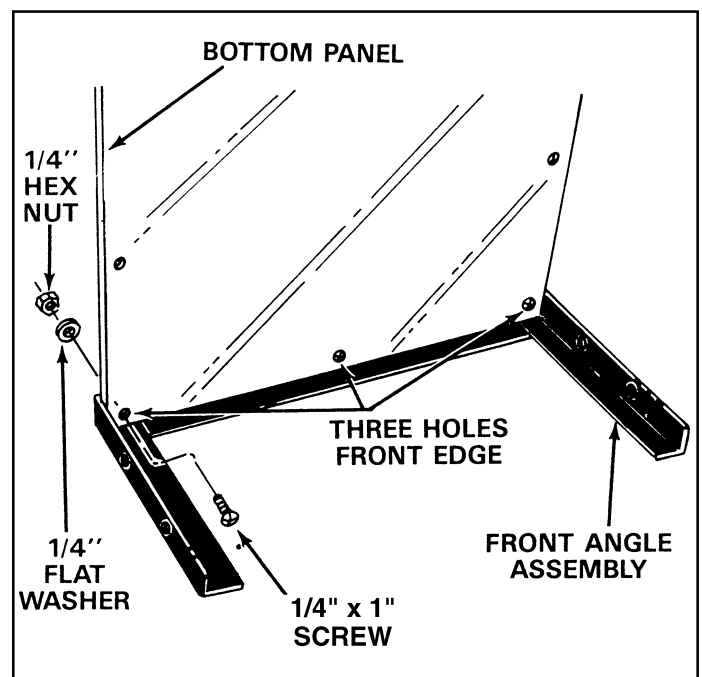

FIGURE 2
1. Lay the front angle assembly down (flat) on floor and stand the bottom panel in position as shown in figure 2.
The bottom panel has one galvanized edge; this is the rear. The front edge has three holes. See figure 2.
2. Line up three holes in bottom panel with holes in front angle assembly. Start three 1/4" x 1" screws through bottom panel, then through angle. Secure screws with 1/4" flat washers and hex nuts. **Tighten securely.** See figure 2.